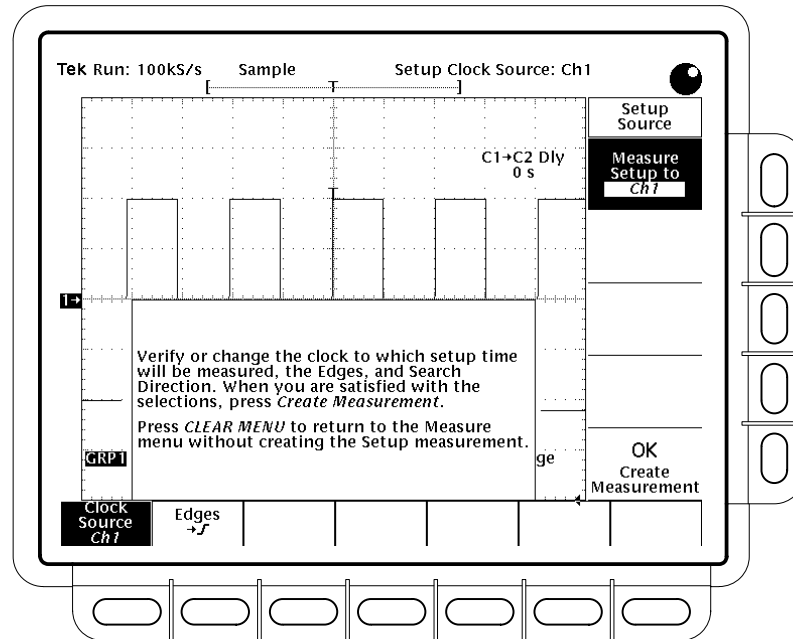

Figure 3-36: Measure Setup Menu
2. Press **MEASURE** → **Select Measrmnt** (main) → **Setup** (side). (Press **-More-** (side) as needed to display the setup items.) (See Figure 3-36.)